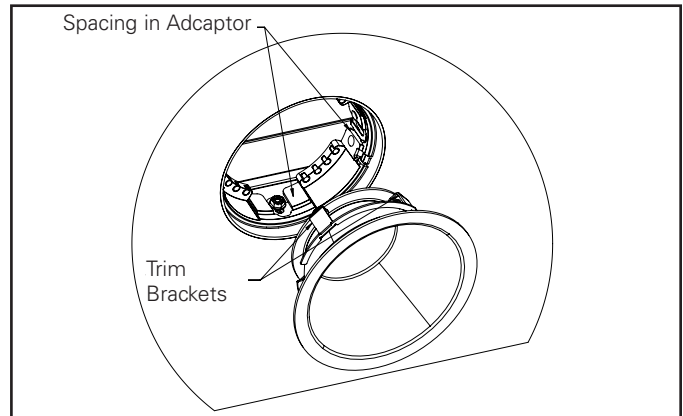

Figure 24.
8. In case of tall trim for downlight align trim such that trim bracket does not interfere with adapter (Refer Figure 24)